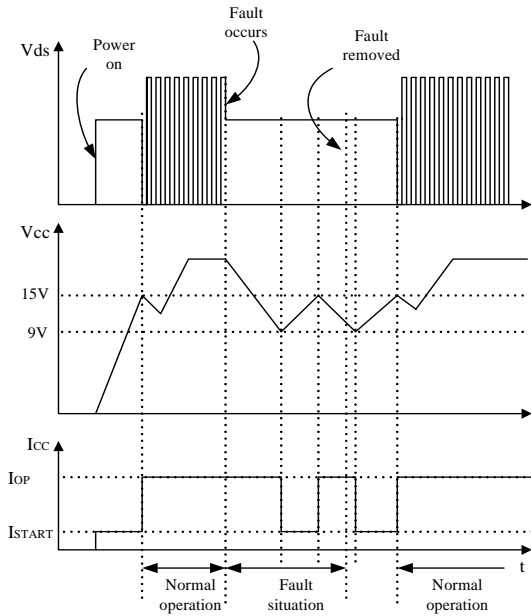

Figure 12. Auto Restart Mode Protection
-Auto-restart mode protection: Once the fault condition is detected, switching is terminated and the SenseFET remains off. This causes V_{cc} to fall. When V_{cc} falls to the under voltage lockout (UVLO) stop voltage of 9V, the protection is reset and the FSCQ-Series consumes only startup current (25uA). Then, the V_{cc} capacitor is charged up, since the current supplied through the startup resistor is larger than the current that the FPS consumes. When V_{cc} reaches the start voltage of 15V, the FSCQ-Series resumes its normal operation. If the fault condition is not removed, the SenseFET remains off and V_{cc} drops to stop voltage again. In this manner, the auto-restart can alternately enable and disable the switching of the power SenseFET until the fault condition is eliminated (see Figure 12).